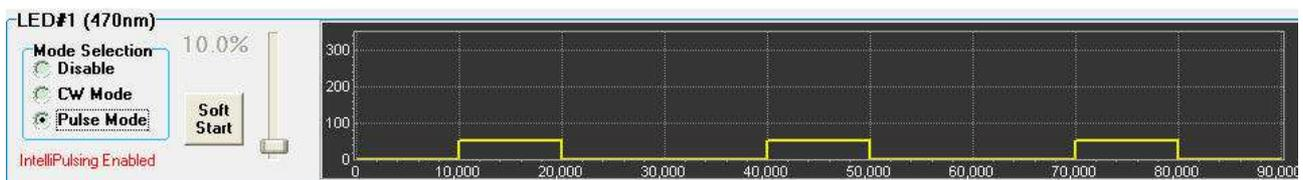

Figure 4.16 Pulse Mode, External trigger with **IntelliPulsing**.
Put the mouse cursor on any one of these blue square points and the mouse cursor will change to a hand shape. Drag a blue square to change the pulse parameters. A label will display the current pulse section information, as shown as Figure 4.16.
- 4) **IntelliPulsing** : Checking this box enables **IntelliPulsing** rules. If **IntelliPulsing** is enabled for the output, a red text reading “**IntelliPulsing Enabled**” will show under the mode selection box. See Figure 4.16 below.